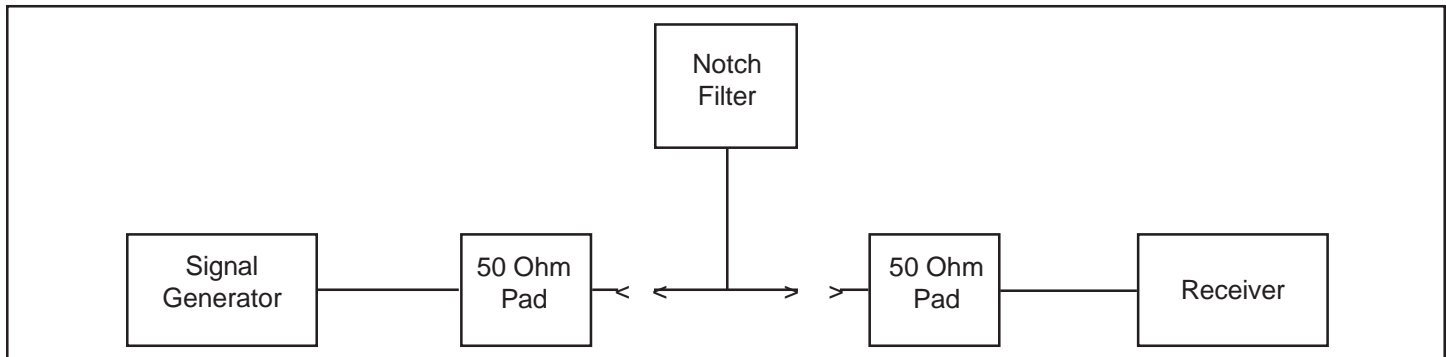

Figure 2 - Field Tuning Equipment
1. Connect equipment as shown in Figure 2.